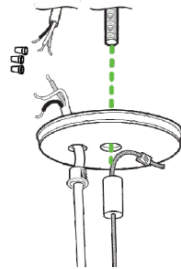

Fig. 8
2. Remove the power cord knockout and connect the power cord to the ceiling power feed using the included strain relief (refer to wiring diagram). (Fig. 8)
4. Remove the power cord knockout and connect the power cord to the ceiling power feed using the supplied strain relief (Refer to wiring diagram). (Fig. 8)